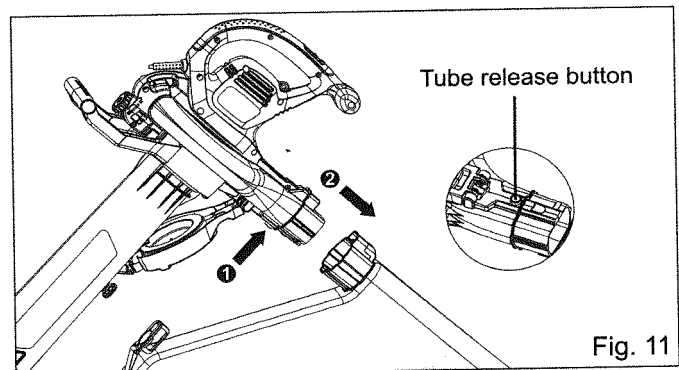

Fig. 11
1. To remove the collective bag, release the bag from the strap holder on the two sides of the tube, and simply press the tube release button to remove the bag (Fig. 11).
- As the bag fills, suction power will decrease. When this happens, turn the power switch to the OFF (0) position and unplug the unit from the power supply. Remove the bag and empty the debris.
- To remove the bag, press the tube release button (Fig. 11). To empty, hold the plastic handle and grab the nylon handle on the underside of the bag. Turn the bag upside down and shake out any debris and leaves.